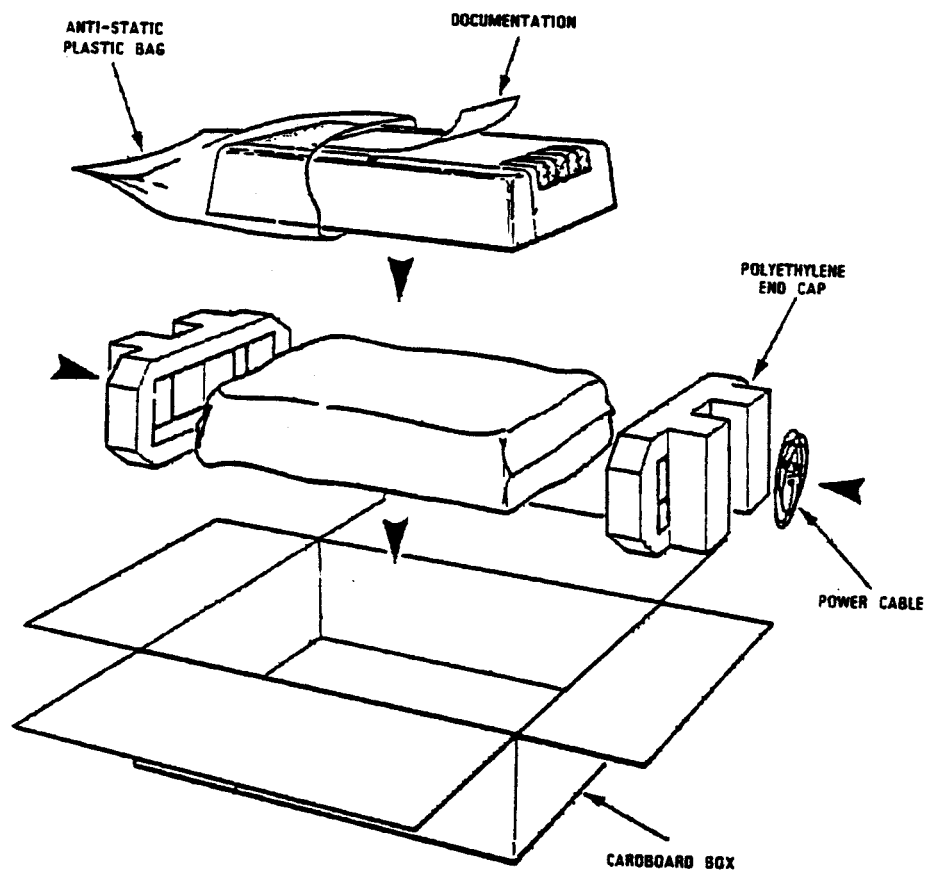

Fig. 2-1 SX-5 Shipping
2.01 The SX-5 is shipped fully equipped in a single carton (Fig. 2-1). If a large number of systems are to be shipped to one location, 20 systems are packaged in a single shipping container.
3.05 When the SX-5 equipment is shipped from one location to another, all items must be packaged to prevent damage. Fig. 2-1 shows how the equipment was originally packaged. This method should be followed as closely as possible.